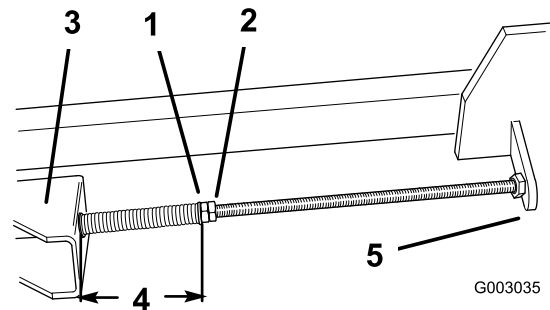

Figure 45
5. Loosen the jam nuts on the adjusting shafts to relieve the tension on the drive belt, then remove the worn drive belt from the pulleys (Figure 45).
cm) measured between the washer and the bushing, then back the front jam nuts off one turn (Figure 45).
9. Tighten the rear jam nuts (Figure 45).